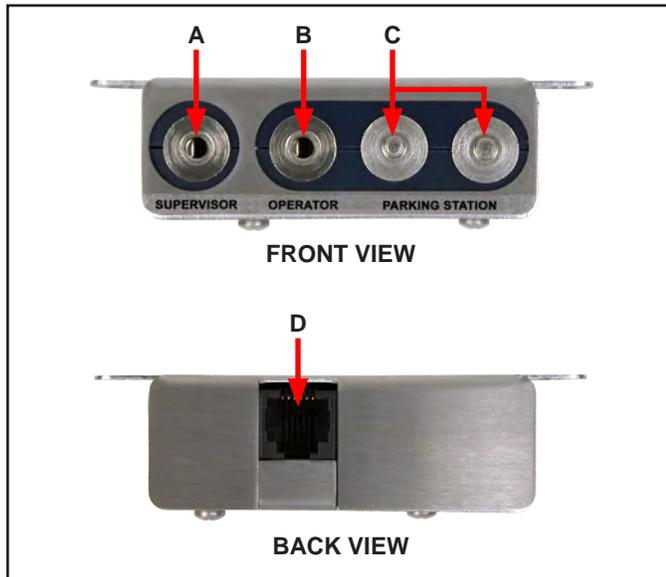

Figure 3. Remote features and components.
## REMOTE (See Figure 3)
1. Plug a wrist strap cord, not attached to the wristband, into the monitored jack labeled OPERATOR located on the remote (See Figure 3). This automatically activates the selected operator channel. The corresponding operator LED should illuminate red and the alarm should sound on the monitor.